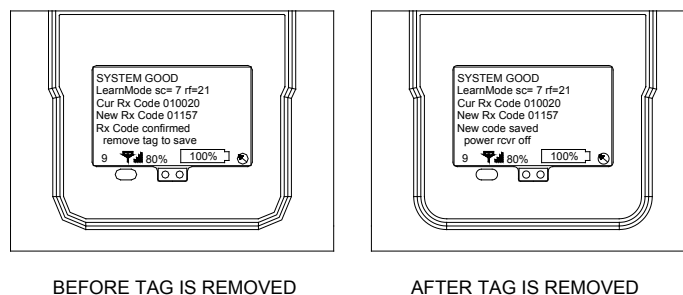

Figure 5 - LCD screen display during step 4
4. Once the code is confirmed, remove the LEARN tag from the harness. Then power the receiver off (main crane power switch) - reference figure 5